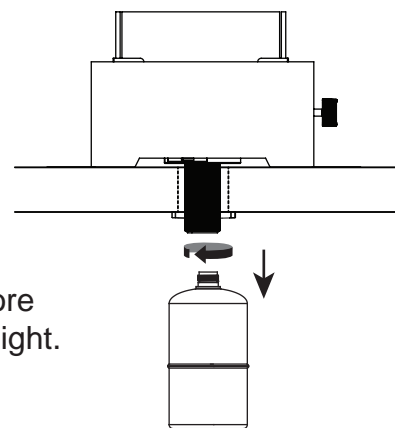

Figure 8
- (1). Turn the control knob to the “OFF” position .
- (2). Rotate propane cylinder counterclockwise until it is loose (see Figure 8).
- (3). Remove the propane cylinder.
- (4). Store the propane cylinder in a proper location.
- (5). Place the protective cap cover on the propane cylinder and store the cylinder outdoors in a well ventilated area out of direct sunlight.